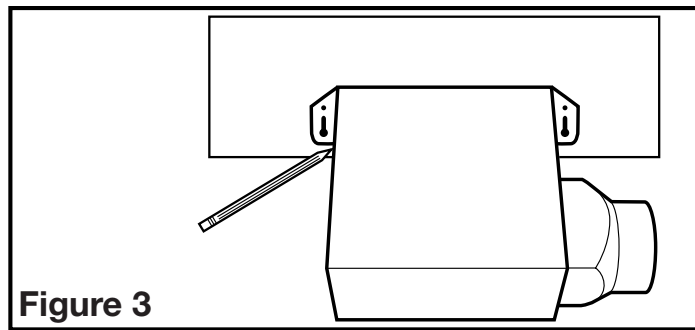

Figure 3
- Existing Constructions:** Position housing against the joist or stud and trace an outline of the housing onto the ceiling/wall material (Figure 3). Set housing aside and cut opening, being careful not to cut or damage any electrical or other hidden utilities. Place housing next to the joist or stud and insure that it is flush with the finished ceiling. Secure with four nails (not provided) to ensure proper installation (Figure 2).